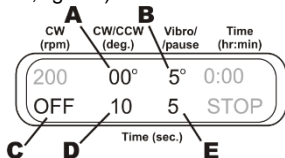
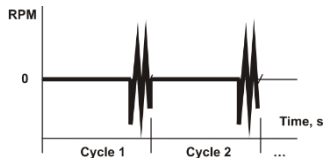

Figure 8.
Figure 9.
- 6.9.4. **Vibro motion + Pause.** Turn off Rotational motion by setting time of rotational motion to zero (OFF, fig. 8/C). Set the turning angle of reciprocal motion to zero (fig. 8/A) and set the time for reciprocal motion (1-250 s, fig. 8/D) - this is the duration of pause. Set the turning angle (1-5°, fig. 8/B) and time (1-5 s, fig. 8/E) for vibro motion. Graph in figure 9 shows motion in this mode.